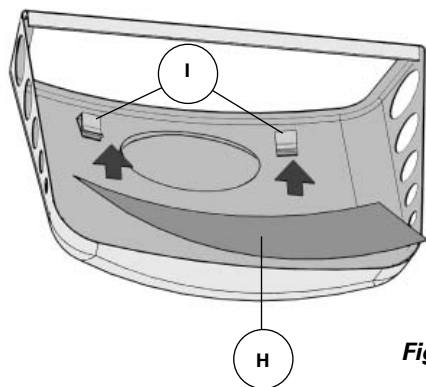

Fig.5
8. Place the sticking paper (H) into position; remove the protective film from the paper, and place it centrally on the cover and slide it into the fixing grippers (I) (fig. 5).